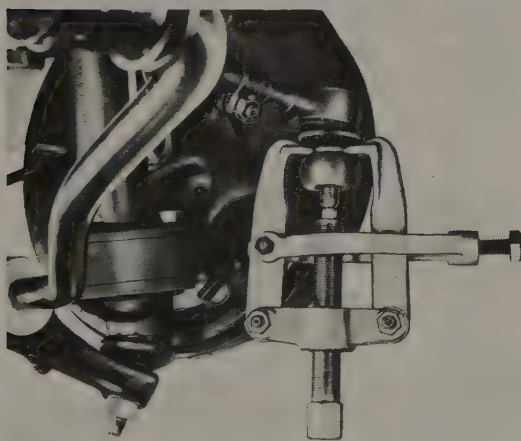

Fig. 5-24. Puller being used to disconnect tie rod end (car shown is not one of those covered by this manual).
4. Remove the nut holding the tie rod end to the steering arm, and use a puller to remove the tie rod end, as shown in Fig. 5-24.